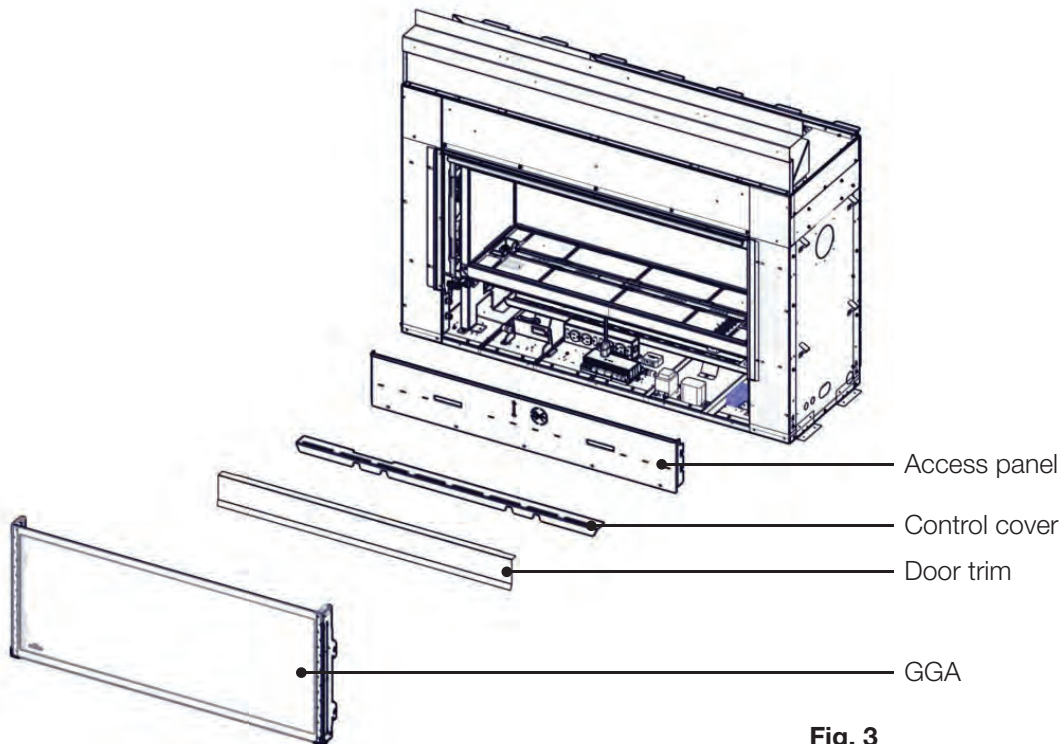

Fig. 3
3. For ease of installation during preliminary adjustment, remove the door trim, control cover and access panel **(Fig. 3)**.